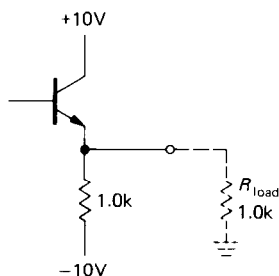
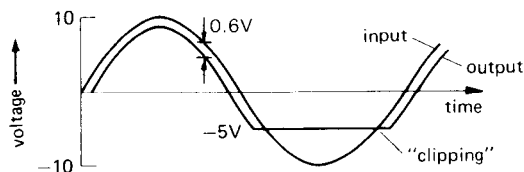

Figure 2.8. An *nnp* emitter follower can source plenty of current through the transistor, but can sink limited current only through its emitter resistor.
Figure 2.9. Illustrating the asymmetrical current drive capability of the *nnp* emitter follower.
1. Notice (Section 2.01, rule 4) that in an emitter follower the *nnp* transistor can only "source" current. For instance, in the loaded circuit shown in Figure 2.8 the output can swing to within a transistor saturation voltage drop of V_{CC} (about +9.9V), but it cannot go more negative than -5 volts. That is because on the extreme negative swing, the transistor can do no more than turn off, which it does at -4.4 volts input (-5V output). Further negative swing at the input results in backbiasing of the base-emitter junction, but no further change in output. The output, for a 10 volt amplitude sine-wave input, looks as shown in Figure 2.9.